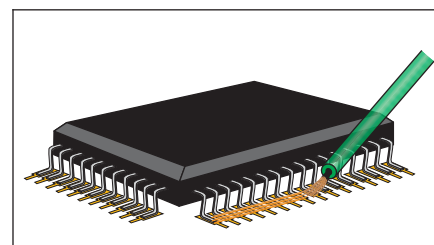

Figure 1 Flux Component
4. Apply flux to component leads. (See Figure 1.)